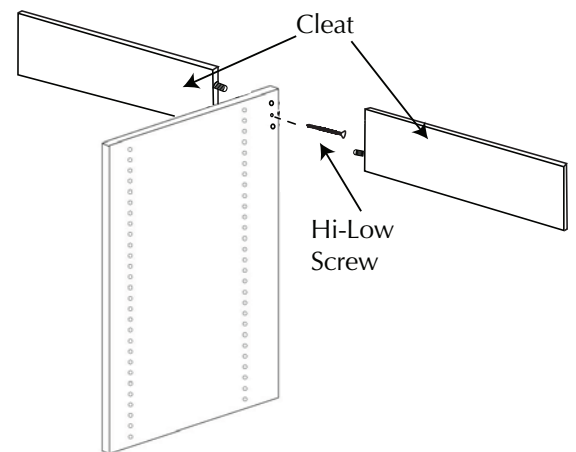

Fig. 5
8. To install double-wide hutch upper section, work from the left to the right. Secure the first upper cleat to the left vertical panel. Next, remove a dowel from the other side of the cleat (bottom dowel is removed in Fig. 5.) Hang the middle upper panel from this cleat using one (1) HiLow screw countersunk through the middle panel into the left cleat. (See Fig. 5.)
9. Remove the opposite dowel from the second upper cleat (upper dowel is removed in Fig. 5). Install the second upper cleat into the middle vertical panel (Fig. 5) with one (1) HiLow screw from the right vertical panel into the right cleat.